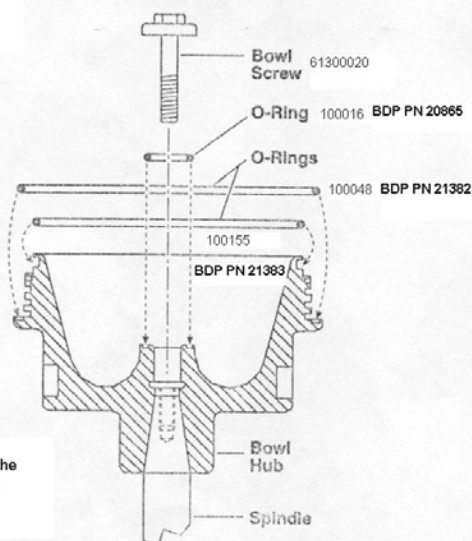

Figure 2
- 4.4 Screw the bowl hub bolt with its O-ring into the threads in the spindle. (See Attachment 1, Figure 2). Torque the bowl bolt to  $145 \pm (5)$  inch-lbs.
10.1.2 Figure 2 – Securing the Bowl Hub